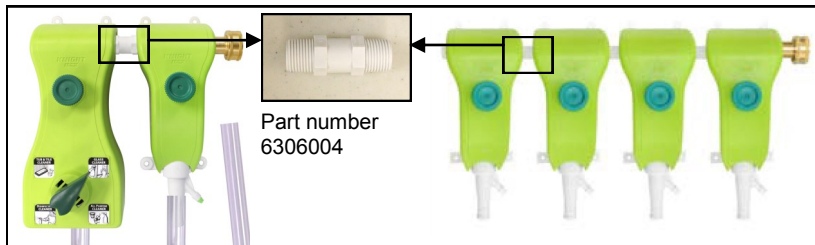

Figure 3
- Multiple units can be connected side by side using the nipple connector (6306004) for any configuration that is required. **See Figure 3**